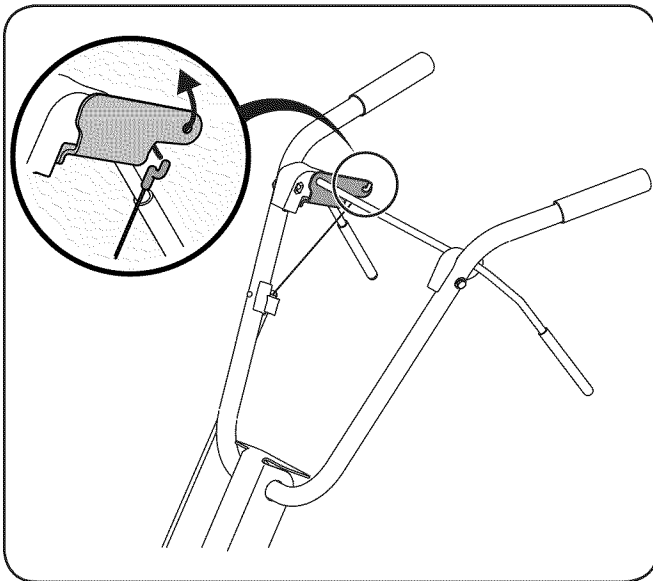

Figure 3-4
5. Insert the Z-fitting on the clutch cable into the hole on the tine clutch control. Hook the "Z" end into the opening from the outside to the inside as shown in Fig. 3-4.